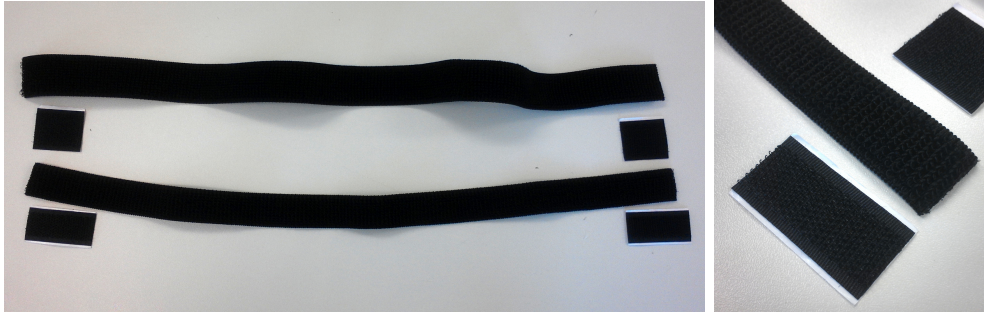

Figure 1.0.33: Female Velcro rubber bands and male Velcro tapes
14. For the next step, take the Velcro rubber bands and two male Velcro tapes (see figure 1.0.33). Sew on each end of the female Velcro rubber bands a male Velcro tape.